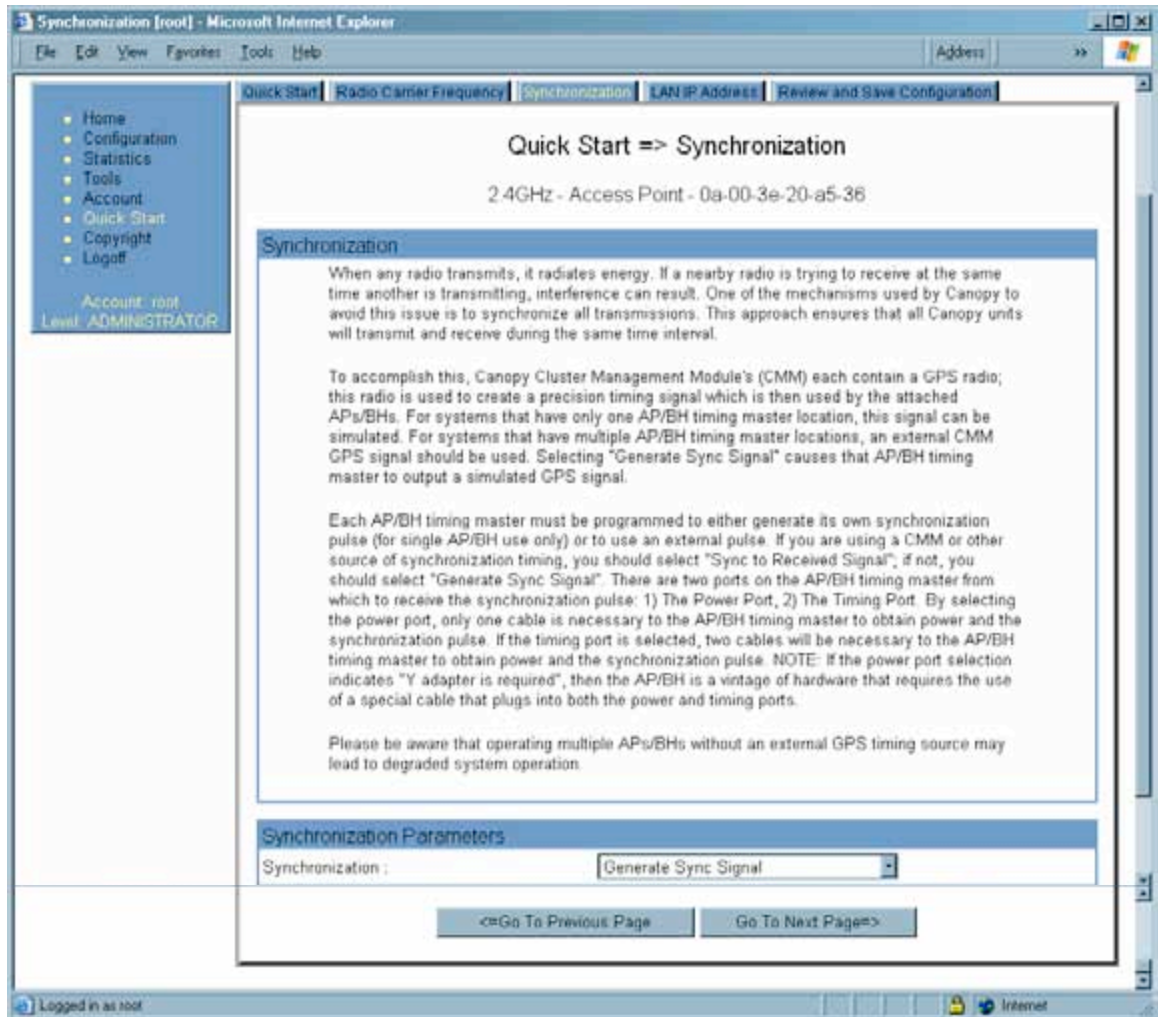

Figure 54: Synchronization tab of AP, example
*RESULT:* The AP responds by opening the Synchronization tab. An example of this tab is shown in Figure 54.